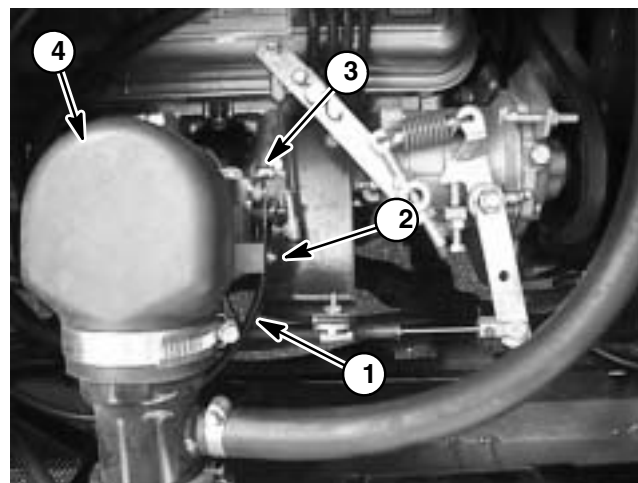

Figure 2
3. Loosen hose clamps that secure carburetor elbow to carburetor. Remove carburetor elbow from carburetor (Fig. 2).